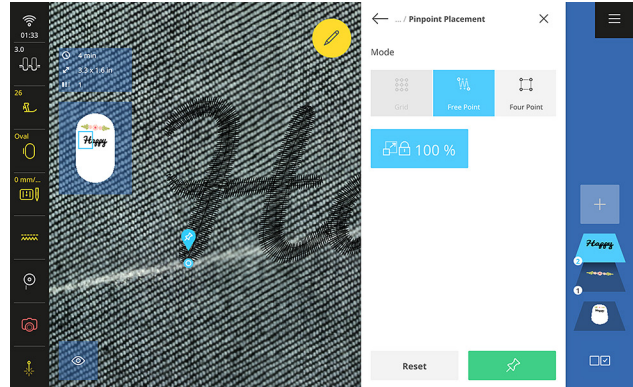

Fig. 46
24. Use the Multi-function Knobs to move this point onto the second drawn line and select the green thumbtack to set in place (Fig. 46).